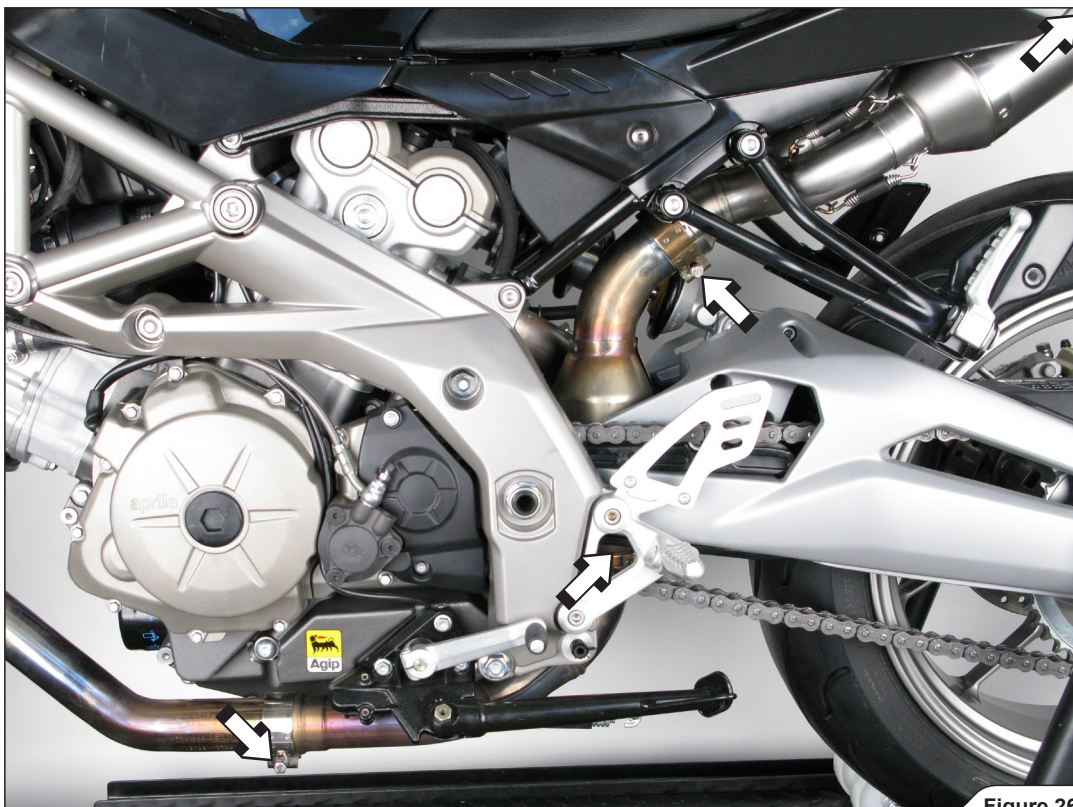

Figure 26
14. In case the mufflers can't be centred in respect to the motorcycle, untighten the bolts of all exhaust clamps (metal and carbon fiber), adjust all exhaust components and then tighten all clamps (**Figure 26**).